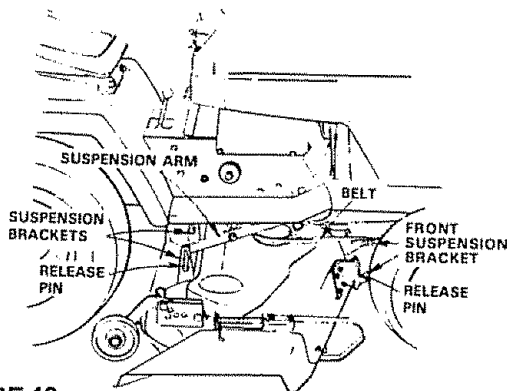

FIGURE 42
- Pull the four (4) release pins out of suspension brackets (Fig. 42).